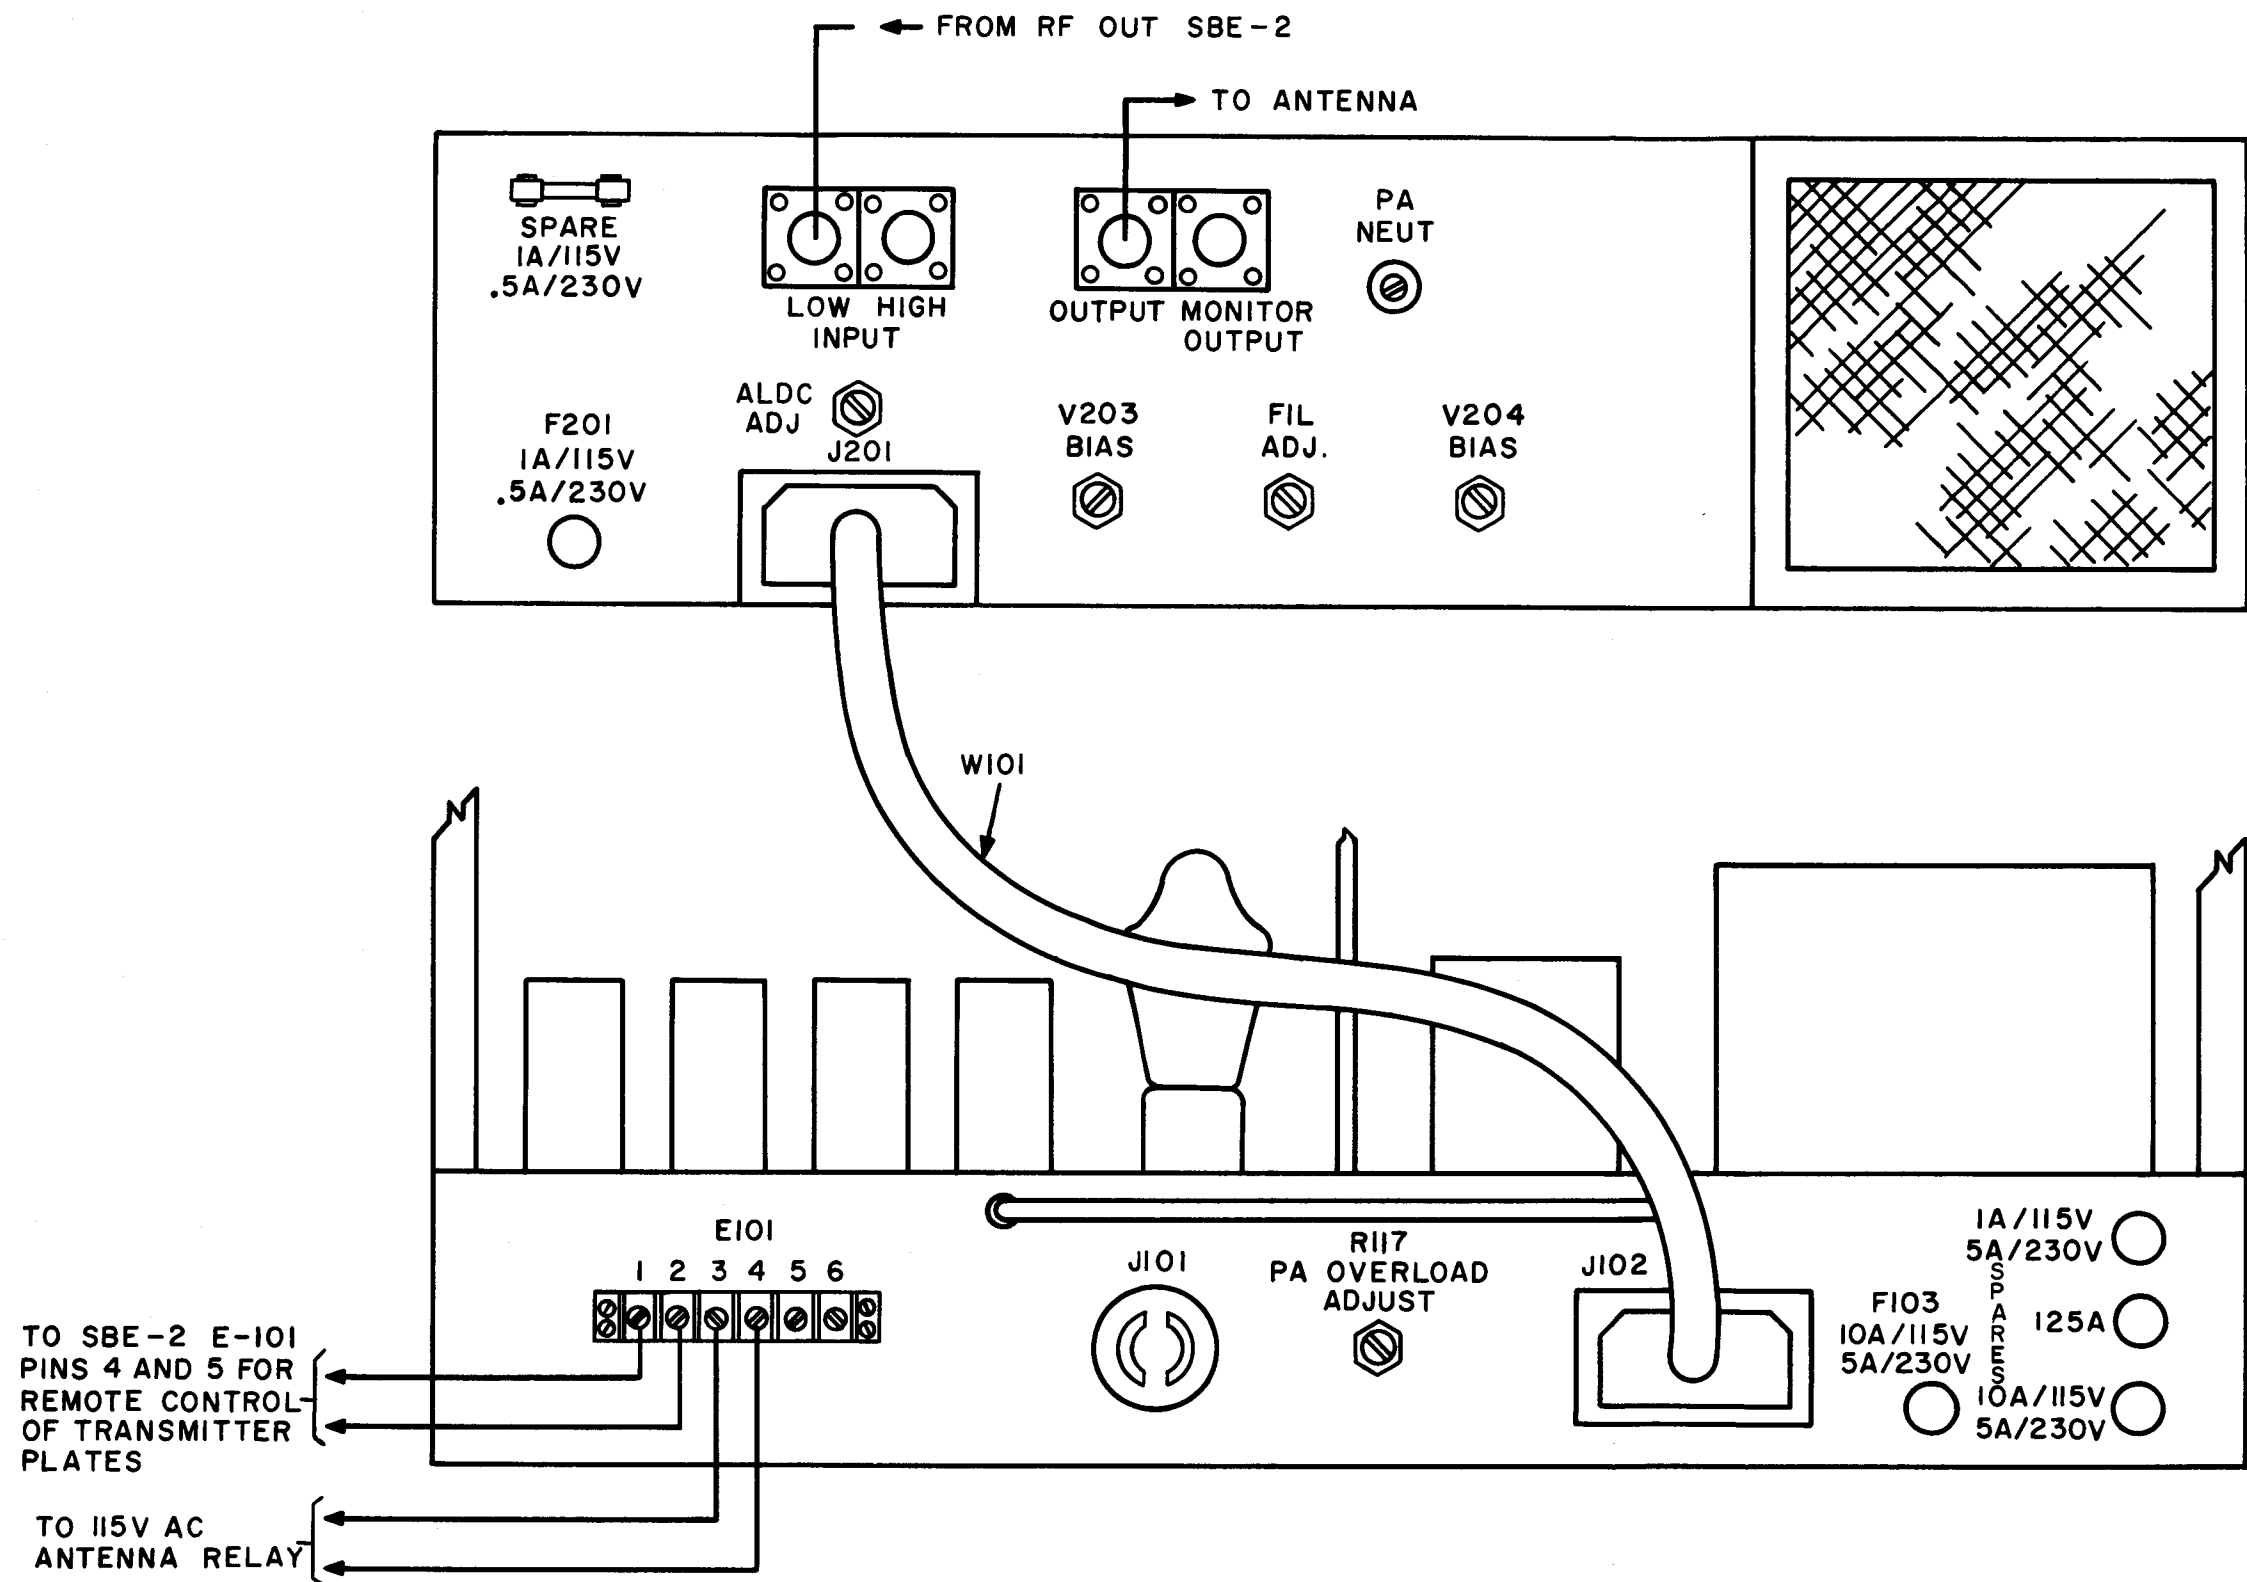

Figure 2-1. Interconnection Diagram, PAL-350
a. As shown in figure 2-1, interconnect J102 and J201 using power cable assembly W101 (supplied).
c. Connect a coaxial cable such as RF-8/U or RF-11/U depending upon antenna or lead, to OUTPUT connector (see figure 2-1).
d. Interconnect PAL-350's associated exciters' output to PAL-350's RFA-1 INPUT connector (see figure 2-1).
(1) Make cable connections as shown in figure 2-1.
(2) Turn HV LINE breaker (CB102) to OFF.
(3) Turn TRANSMITTER PLATES switch (S103) to STANDBY.
(4) Turn MULTI METER switch (S203) to PA FIL (position 1).
(5) Turn MAIN LINE switch (CB101) to ON. Allow to remain ON for twenty minutes.
(6) MULTI METER (M202) should indicate 30 (equivalent to 6 volts).